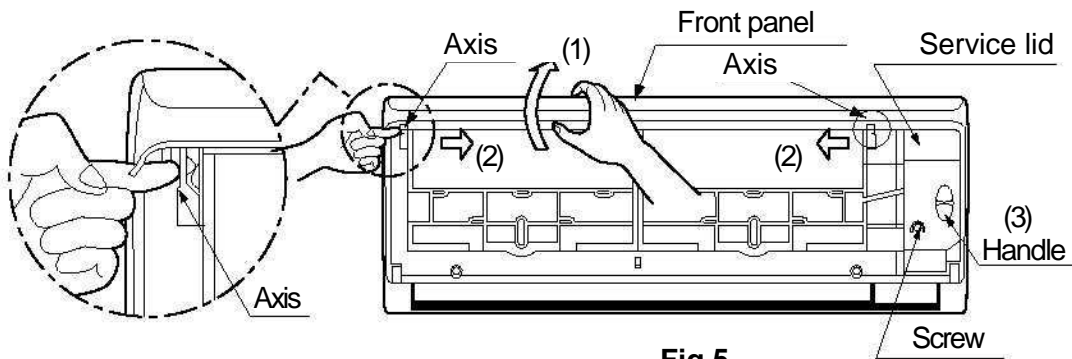

Fig.5
(4) Remove the front panel and the service lid. (Refer to Fig. 5)